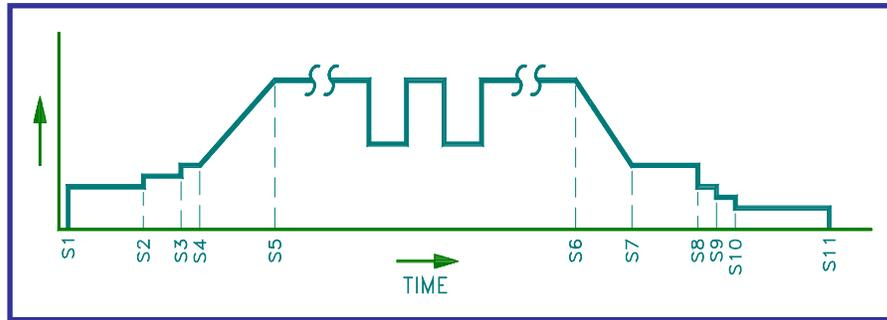

Figure 2-2
The WSC provides the user with ten (10) programmable events that comprise the weld cycle. Setting the corresponding time to zero (0) can disable individual events. Figure 2-2 shows the various weld cycle events. In conjunction with the weld events the user can specify a pulse mode of operation. In this mode the WSC will provide a synchronized pulse of the remote power supply, Wire feeder and Travel speed. The user can disable any individual pulse output function.